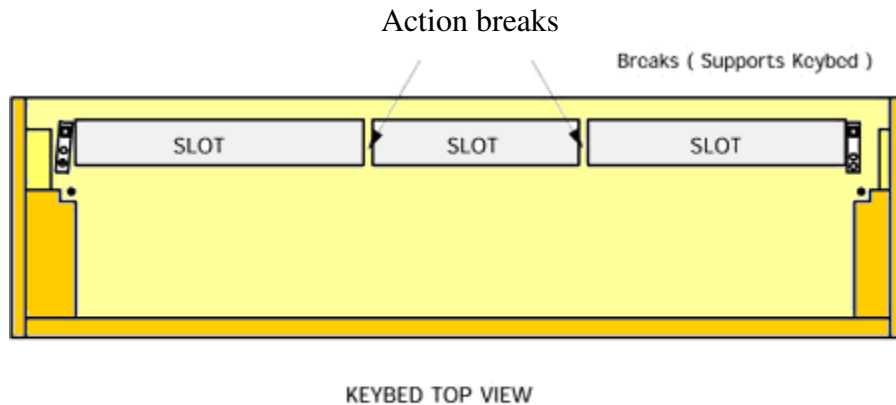
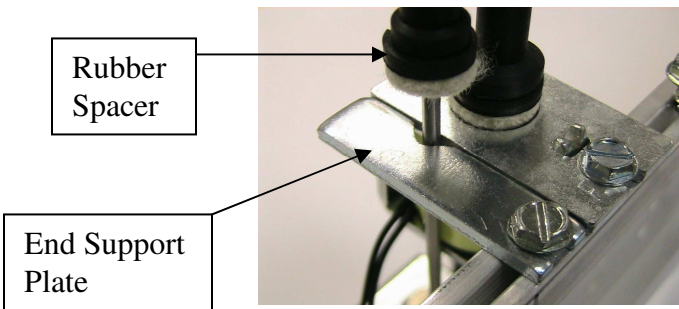

Figure 9.
Figure 10C
- F.** At the tenor/treble break we want to preserve as much wood as possible as discussed in Step 4. (See Fig. 9) So, if a long stemmed (white wire) solenoid was planned for at the tenor/treble break, you will want to modify the support tab to conserve the amount of wood removed at the break. (See fig. 10c) Do the same for the other end keys that have long stem solenoids.
NOTE: It may be necessary to grind a notch into the end support plate to preserve as much wood as possible at the breaks. (See figure 10c)
- M. Locate the baggie of rubber spacers in the kit. Notice there are two sizes of rubber spacers. The larger diameter spacers are for the top row solenoids and the smaller diameter spacers are for the bottom row solenoids. Place the rubber spacers between the felt washer and the rubber tip. (See figure 10c & 10d)